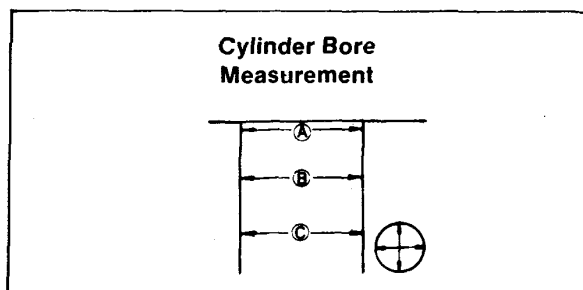

Figure 4-39
2. Take a total of 6 cylinder measurements as shown in Fig. 4-39. Take two measurements each at point A, B, C.